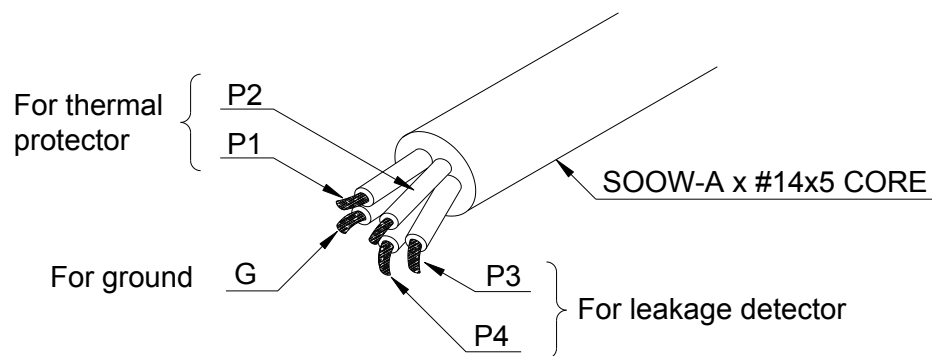

Fig. 15
**4.3 Protective Device Cable Connection (Fig. 15 and Table 3)**
This pump have a leakage detector at the motor bottom and a thermal protector, in the stator coil to protect the motor, with cable connections as illustrated in Fig. 15. Connect terminals P1 and P2 for the thermal detector to P1 and P2 of the same control connector. Connect the remaining terminal G to ground. Table 3 shows detailed specifications regarding protective devices.